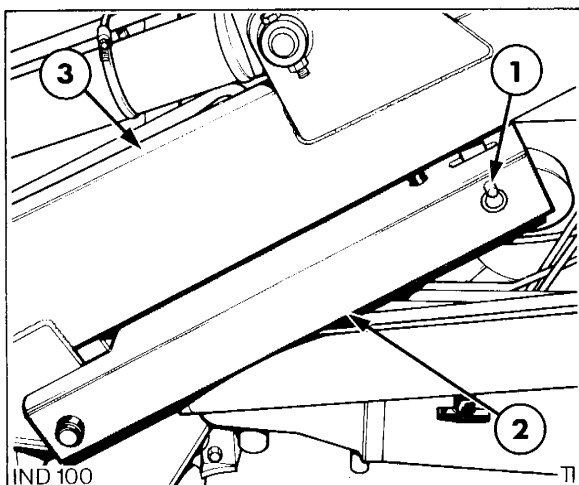

FIGURE 0-5
The Ford D-Series tractors are equipped with a loader arm support. The loader arm support (2) is stored on the left-hand loader arm (3) and retained in position by a single pin and hairpin cotter pin (1), Figure 0-5.